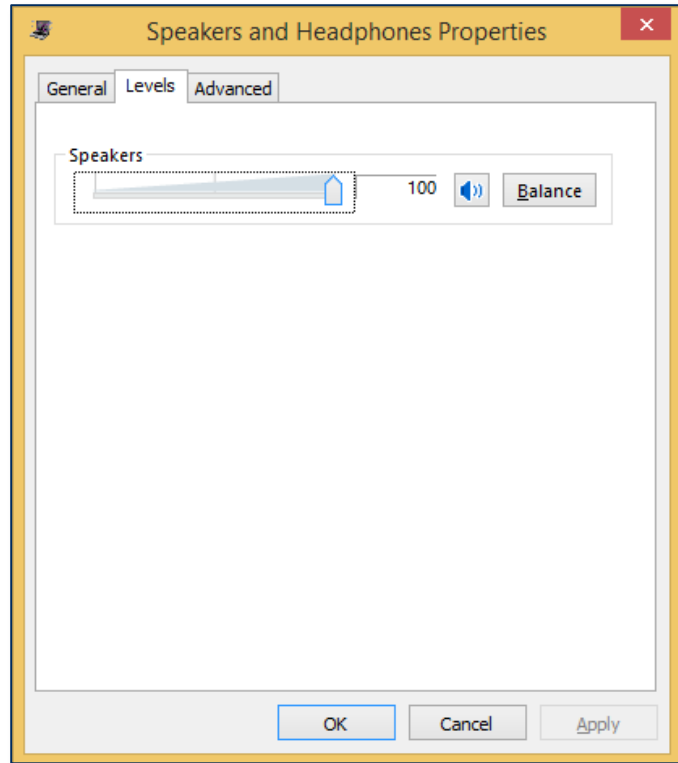

Figure 3-1 Device Volume Level Set to 100
- 9) Set the volume at maximum. See **Figure 3-1** for an example.